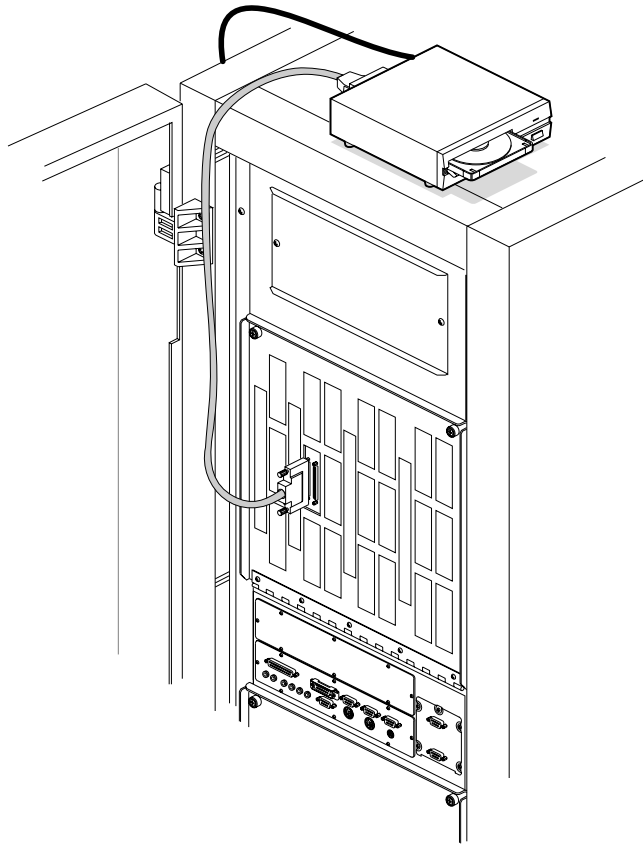

Figure A-2 Attaching the CD-ROM to the I/O Panel (Rackmount)
13. Connect the 68-pin to 50-pin Centronics SCSI adapter cable to the 68-pin SCSI connector you installed on the I/O panel. See Figure A-2.